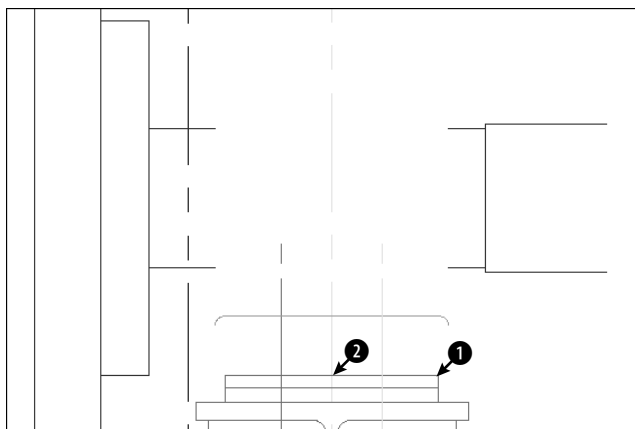

Figure 16-2: A small section of a drive block.
2. Save the file as *ab16-01.dwg* in your *AutoCAD Bible* folder. It shows a small section of a drive block, as shown in Figure 16-2. In this exercise, you complete part of the drawing. ORTHO and OSNAP should be on. Set running object snaps to endpoint, midpoint, and intersection. Layer 3 should be current.
Base point: Choose **1** in Figure 16-2.
Base point: *Choose point 2 in Figure 16-2.*